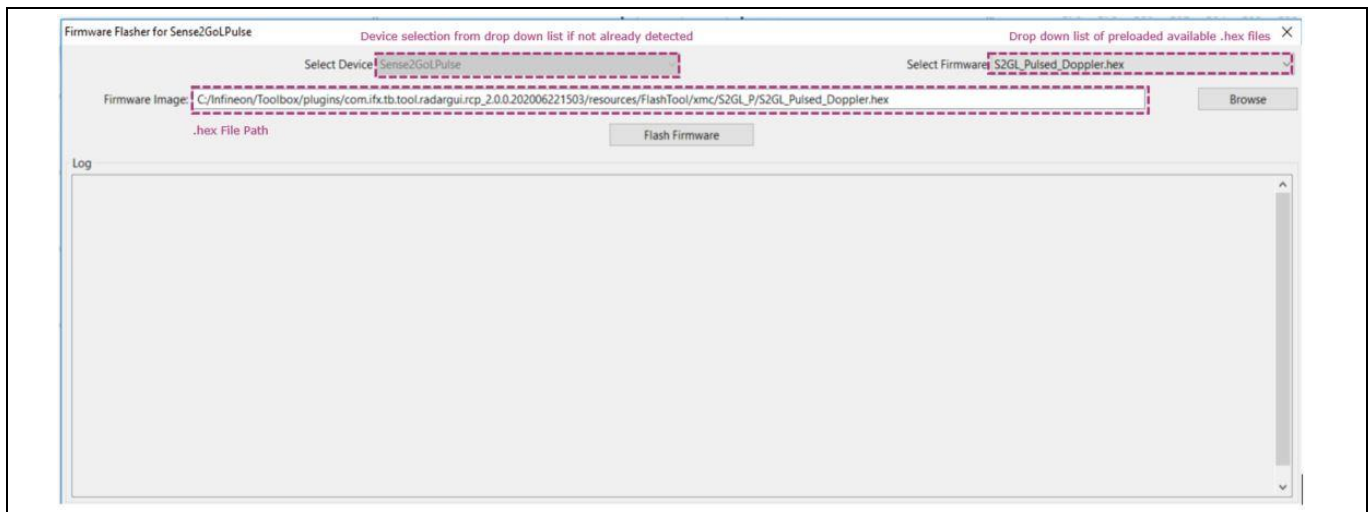

Figure 17 Firmware flasher interface in Radar GUI
- A dialog box will appear where you can give path for your (*.hex) file or select from a preloaded list of available (*.hex) files (**Select Firmware**), as shown in Figure 17. You can also select your device, if not already detected by Radar GUI, from the drop down list of **Select Device**.